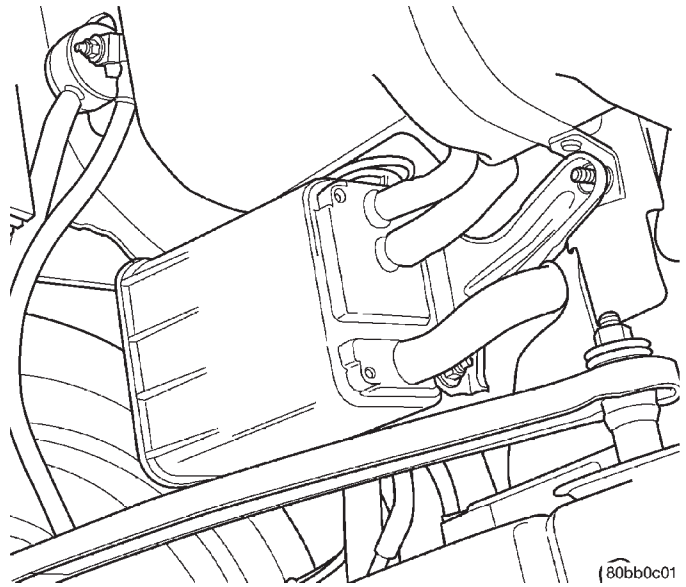

Fig. 7 EVAP Canister
- (1) Disconnect the negative battery cable.
- (2) Raise vehicle and support.
- (3) Disconnect the hoses from the EVAP canister (Fig. 7).